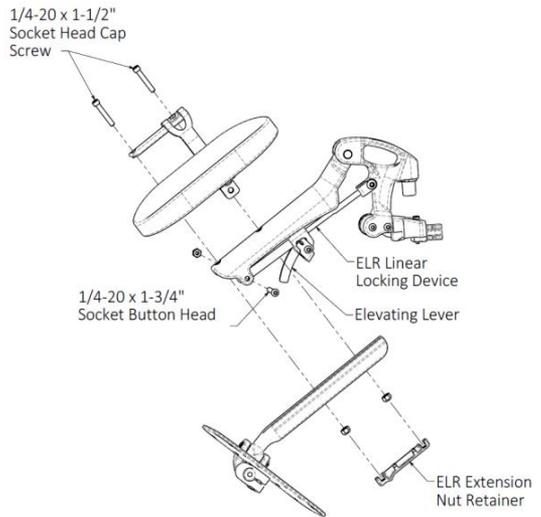

Figure 12.5: Elevating Legrest Footrest Height Adjustment
1. Loosen and remove the $\frac{1}{4}$ -20 x 1-3/4" Socket Button Head which holds the ELR's linear locking device, shown in Figure 12.5